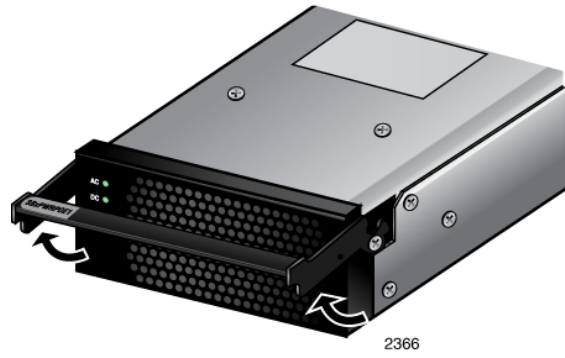

Figure 58. Unlocking the Handle on the AT-SBxPWRPOE1 Power Supply
4. Raise the locking handle on the AT-SBxPWRPOE1 Power Supply, as shown Figure 58 on page 130.